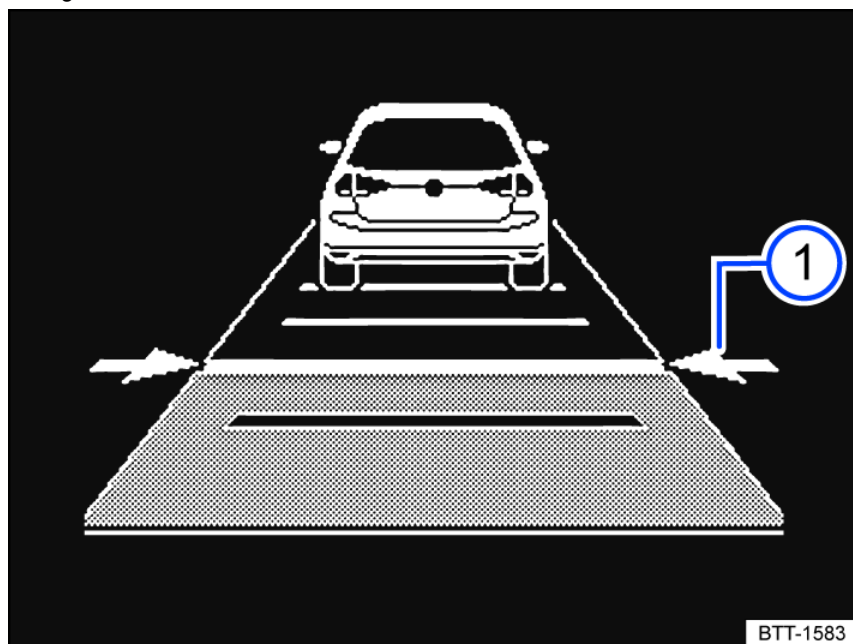

Fig. 108 In the instrument cluster display: set distance ① (general example, ACC is regulating).
The instrument cluster display shows the selected level *fig. 108 ①*. Heed the country-specific regulations for minimum distance.